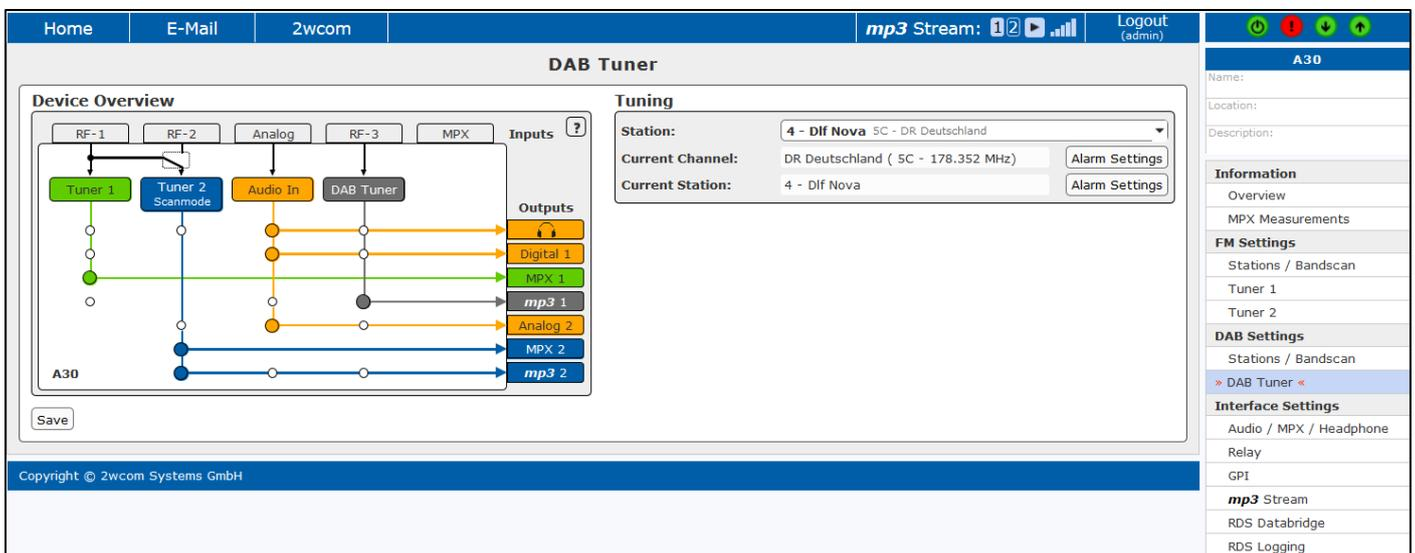

Fig. 20: DAB Tuner setup
6. You can alternatively select a saved station for tuning and monitoring in the dropdown menu "Station" under **DAB Settings→DAB Tuner** in the "Tuning" field (see Fig. 20). Click the "Save" button to save the changes.
⇒ The tuned station will be shown in the "Current Station" field and the corresponding channel in the "Current Channel" field (see Fig. 20).
1. Select **DAB Settings → DAB Tuner** in the web interface menu. "DAB Tuner" page appears (see Fig. 20):